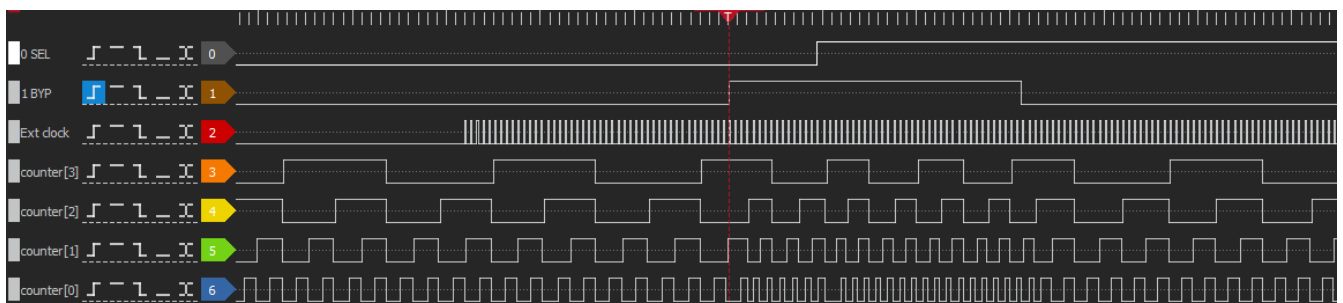

Figure 6: Change in sel and byp line to produce PLL\_CLK of different frequencies
10. Connect the GPIO2 to the Synchronous Logic Generator, Configure GPIO0 and GPIO1 as buttons or synchronous Logic Generators to function as sel and byp signals for PLL\_REF\_CTRL\_SEL and BYP\_SEL and then observe the output from GPIO3, GPIO4, GPIO5 and GPIO6 on logic analyzer. In Figure 6 it can be observed that when there is a change in the sel and byp signals, then there is a corresponding change in the frequency of the switching of the counter depicting that the PLL is being driven by 2 different clock sources.